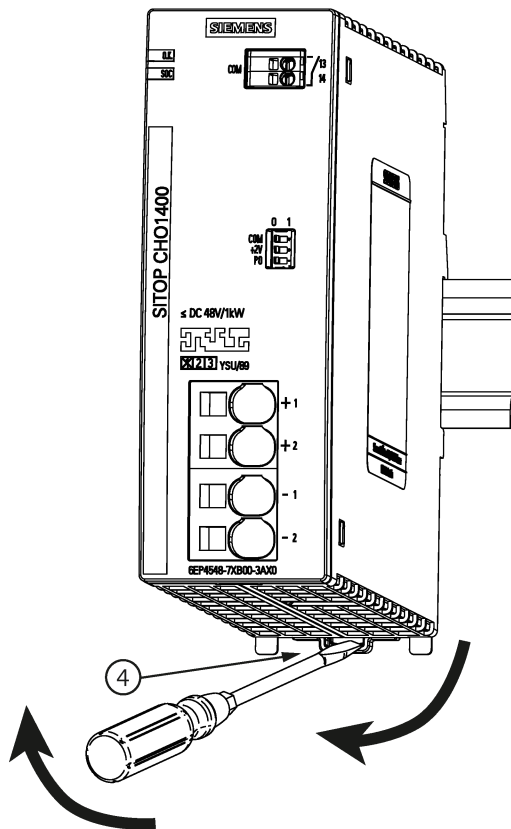

Figure 3-5 Mounting/removal
To remove, pull up the slider ④ using a screwdriver (see Figure 3-5 Mounting/removal (Page 58)) and disengage the device at the bottom edge of the standard mounting rail. Then you can remove the device from the upper edge of the standard mounting rail.